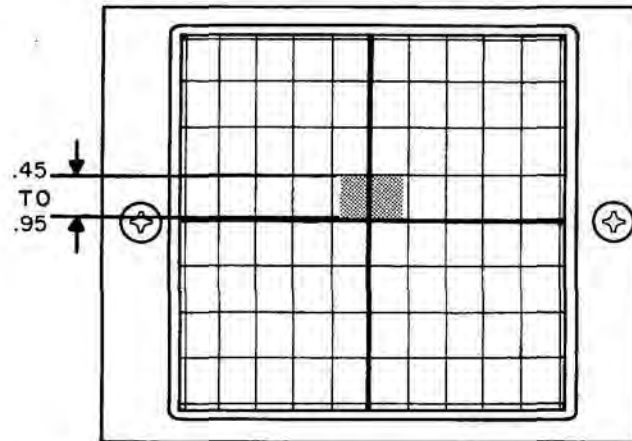

Figure 3-17 Amplitude Of 2 kHz FM Deviated Signal Shown Between .45 And .95 Graticule Divisions In Height
11. Adjust HORIZ Control (38) and VERT Control (40) to center display over major horizontal axis, to facilitate measurement of displayed signal (see Figure 3-17).